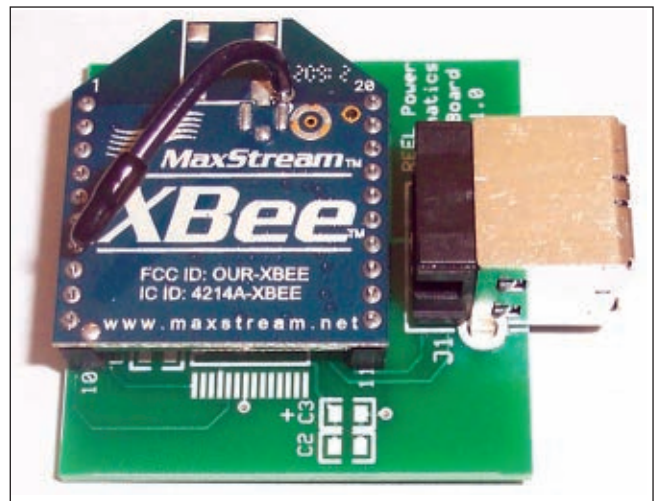

Figure 3. Telematics Receiver Board.
■ FIGURE 3.
Our telematics system comes in two parts: the transmitter board (**Figure 2**) and the receiver board (**Figure 3**).